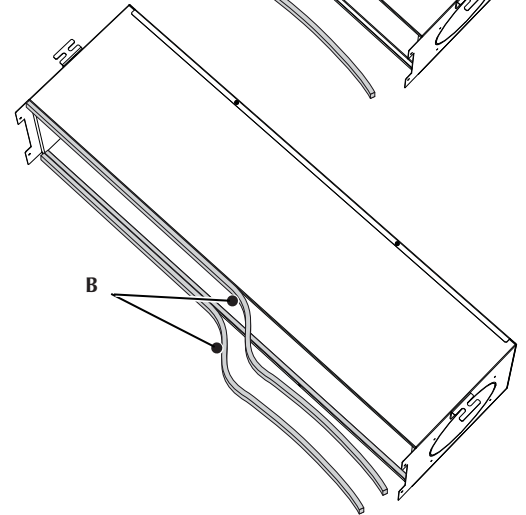

fig.2
- Use the four screws provided to fasten the RPM_V accessory to the unit flow vent (fig.2).